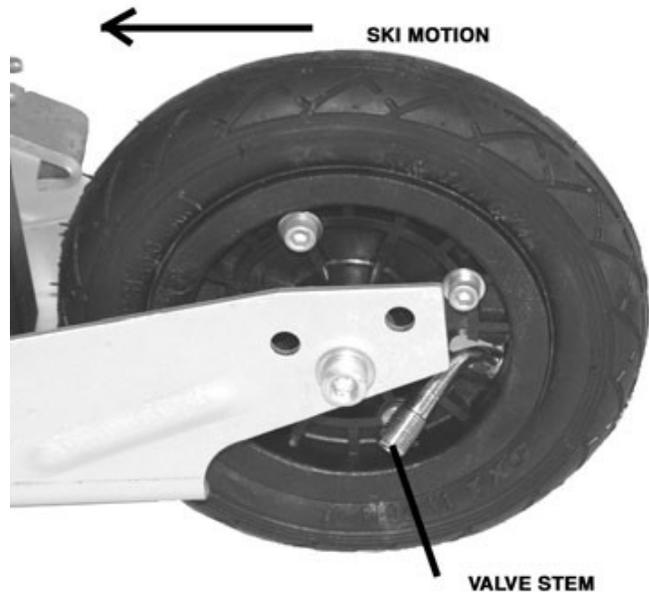

Fig. 2
**!! Caution! Make sure you install the wheel so the valve stem is facing backwards from the rotation of the wheel. See Figure 2 below.**